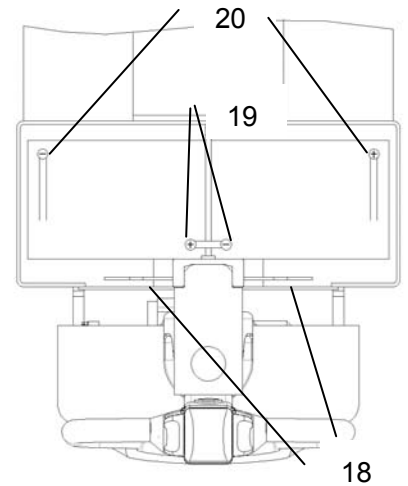

Fig. 14: Battery replacement
Park the truck securely and switch off the truck with the combined emergency switch (3). Loosen the main cover with the 2 screws (18, fig. 14).
After closing the hydraulic tank with the closing cap (21, fig. 15, only EPT 15), unbolt the the screws of the negative terminal (19, fig. 14) firstly, then unbolt the screws of the positive terminal (20, fig. 14) and put the cables aside.
Remove the battery fixing elements (26, fig. 15) and remove the batteries. Place the new batteries with the terminal- positions according to fig. 14.